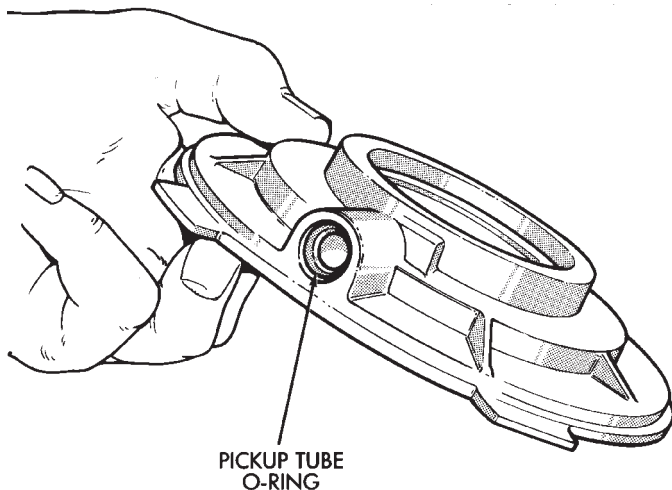

Fig. 78 Installing Pickup Tube O-Ring
(58) Install new pickup tube O-ring in oil pump (Fig. 78).